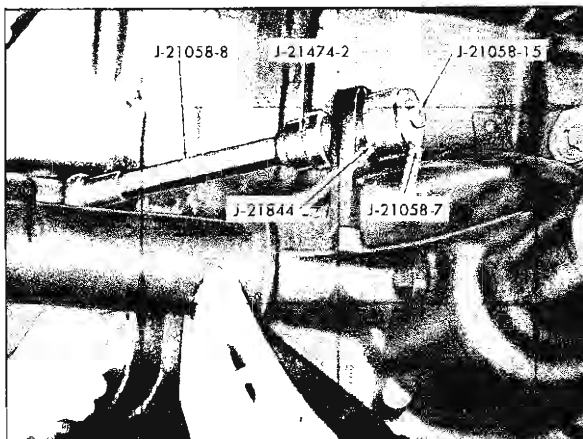

Fig. 30—Carrier Mounted Suspension Bushing Installation (Light-Duty)
- e. Position bushing and Installer Adapter J-21474-2 onto puller screw with small end of bushing toward carrier ear. Refer to Figure 30 for installed view of tools.